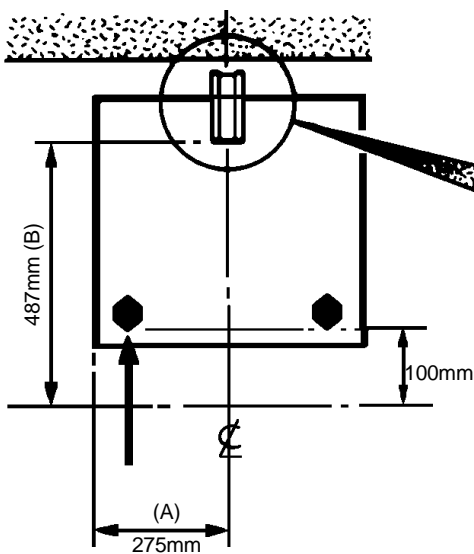
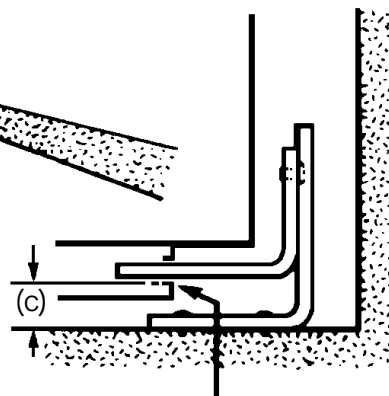

Fig.2a
Fig.2b
2. Mark off 275mm from the left hand side of the appliance as shown in dimension 'A', Fig.2a. This is the centre line of the fixing bracket.
3. Draw a line 100mm from the front edge of the levelling feet (see Fig.2a) and remove appliance from its position. Mark off dimension 'B' (see Fig.2a) back from this line on the centre line of the bracket to locate the front edge of the lower bracket. Fix lower bracket (with two fixing holes) to the floor then measure the height from floor level to engagement edge on back of appliance, dimension 'C' of Fig.2b.
- Reposition appliance and check that top bracket engages into appliance back as shown in Fig. 2b.